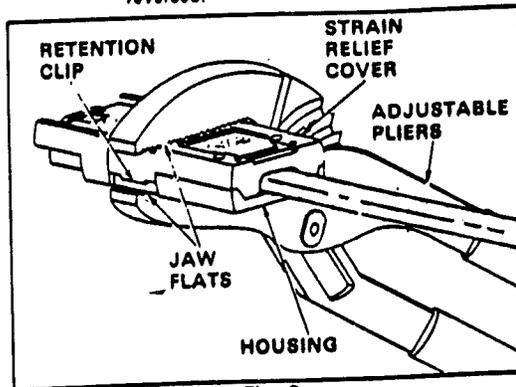

Fig. 3
7. Grip the housing and strain relief firmly and hold in position. Adjust pliers so jaw flats will be parallel and press evenly when closing the cover. See Figure 3.